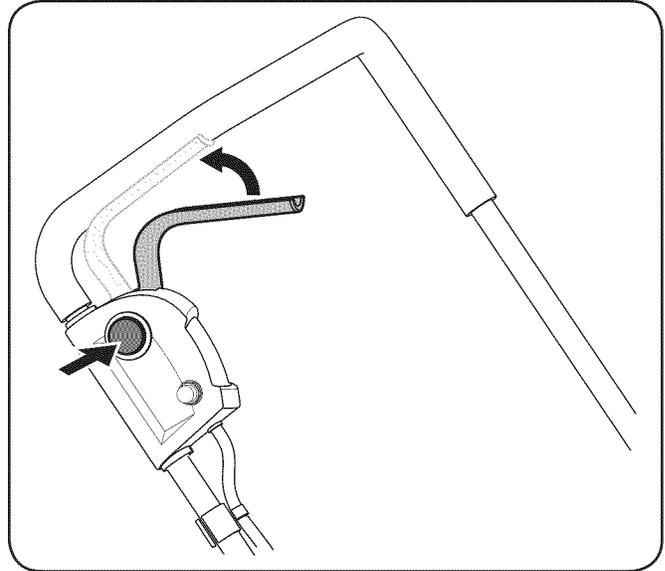

Figure 5-2
3. Press the starter button and hold it in. See Fig. 5-2.
4. While holding the starter button in, squeeze the motor/blade control lever against the upper handle to start the motor and engage the blade. See Fig. 5-2.